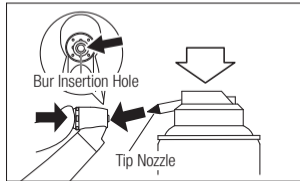

Fig. 10
- 2) Lubricate the chuck directly through the bur insertion hole (Fig. 10).